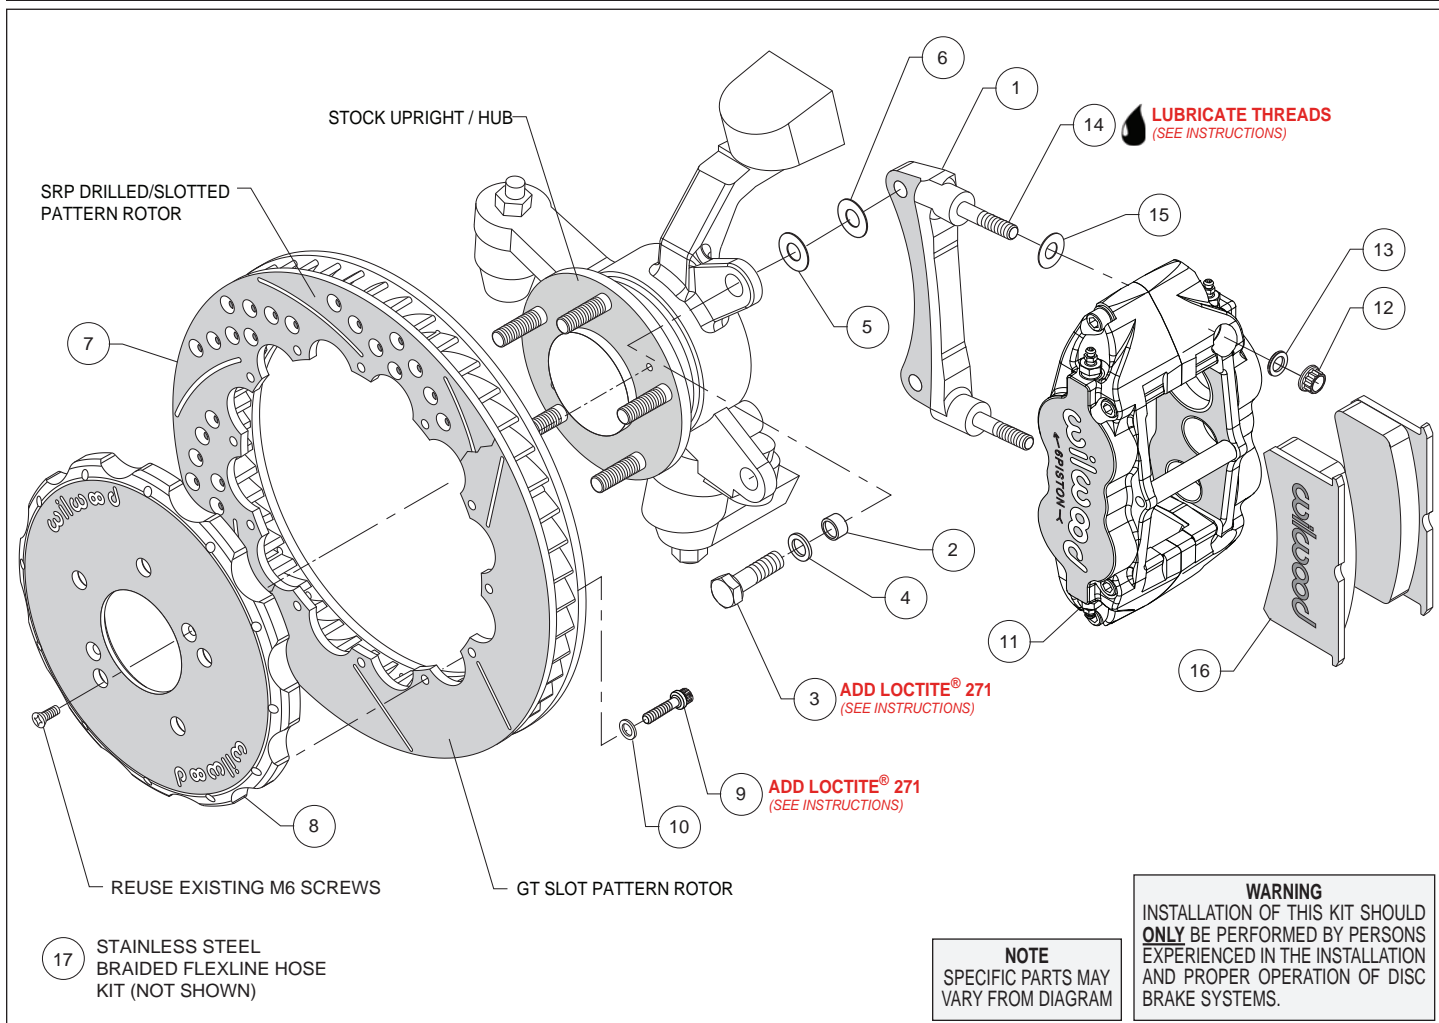
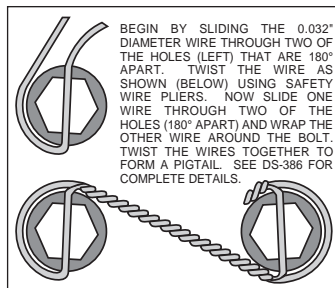

Figure 1. Typical Installation Configuration
Figure 3. Safety Wire Diagram
**Assembly Instructions** (numbers in parenthesis refer to the parts list and Figure 1 on the preceding pages):
- The caliper mount bracket (1) should initially be installed with clean, dry threads on the mounting bolts. Orient the bracket as shown in Figure 1 and Photo 1, and install using bolts (3), washers (4) and sleeve (2) inserted into the mount holes in the upright. Initially place one .030 thick shim (6) on each bolt between the bracket and upright, Figure 1. Temporarily tighten the mounting bolts. **NOTE:** *The bracket must fit squarely against the mount bosses on the upright.* Inspect for interference from casting irregularities, machining ridges, burrs, etc. Later, after the caliper alignment has been checked, the mount bolts will be secured using red *Loctite*® 271.
- Orient the rotor (7) and the hat (8) as shown in Figure 1 and Photo 2. Attach rotor to hat using bolts (9) and washers (10). Using an alternating sequence, apply red *Loctite*® 271 to the threads, and torque to 155 **in-lbs**. For an added measure of security, the bolts may be safety wired using standard 0.032 inch diameter stainless steel safety wire as shown in Figure 3. Please refer to Wilwood's data sheet DS-386 (available at [www.wilwood.com/Pdf/DataSheets/ds386.pdf](http://www.wilwood.com/Pdf/DataSheets/ds386.pdf)) for complete safety wire installation instructions.
- NOTE:** *This kit contains distinct right and left hand calipers that must be mounted in a specific direction, as described below.* Lubricate the caliper mounting studs (14) with lightweight oil. Initially place one .035" thick shim (15) on each stud as shown in Figure 1 and Photo 3. Mount the caliper (11) onto the bracket (1) using lock nuts (12) and washers (13), Figure 1. Ensure that the caliper is mounted so that the largest pistons are at the rotor exit end of the caliper, in relation to the direction of rotor rotation. Temporarily tighten the lock nuts and view the rotor through the top opening of the caliper. The rotor should be centered in the caliper, Photo 4. If not, adjust by adding or subtracting shims (5 and/or 6) between the bracket and the upright. Always use the same amount of shims on each of the two mounting bolts. Once the caliper alignment is correct, remove the bracket mounting bolts (3) one at a time, apply red *Loctite*® 271 to the threads, and torque to 42 ft-lb.